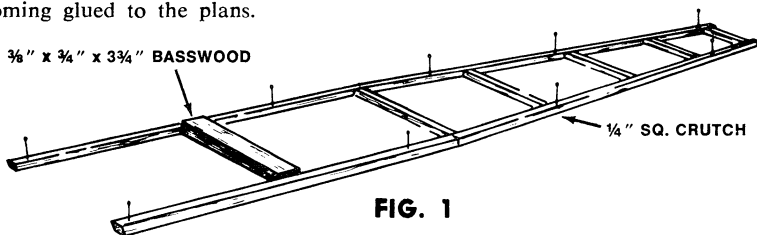

FIG. 1
4. The first item to build is the fuselage "crutch." See Figure 1. Construct directly over the plan from $\frac{1}{4}''$ square. Glue in the $\frac{3}{8}'' \times \frac{3}{4}'' \times 3\frac{3}{4}''$ hardwood block. Make 2 of each cross-brace; one set to use now and a set that will be used later.